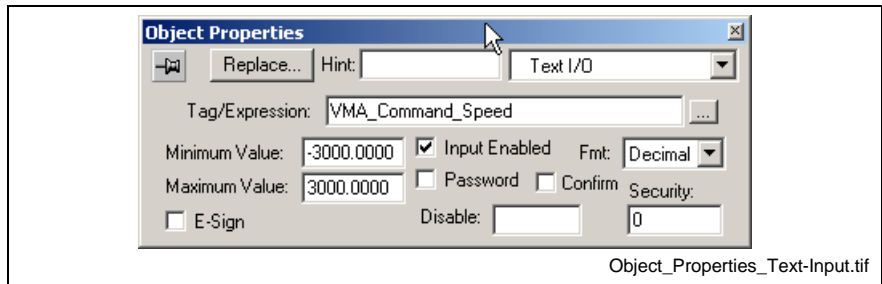

Fig.5-16: Dialog **Object Properties** - input field
5. Enter the input limits in Minimum Value and Maximum Value. See "Fig.5-16: Dialog Object Properties - input field".